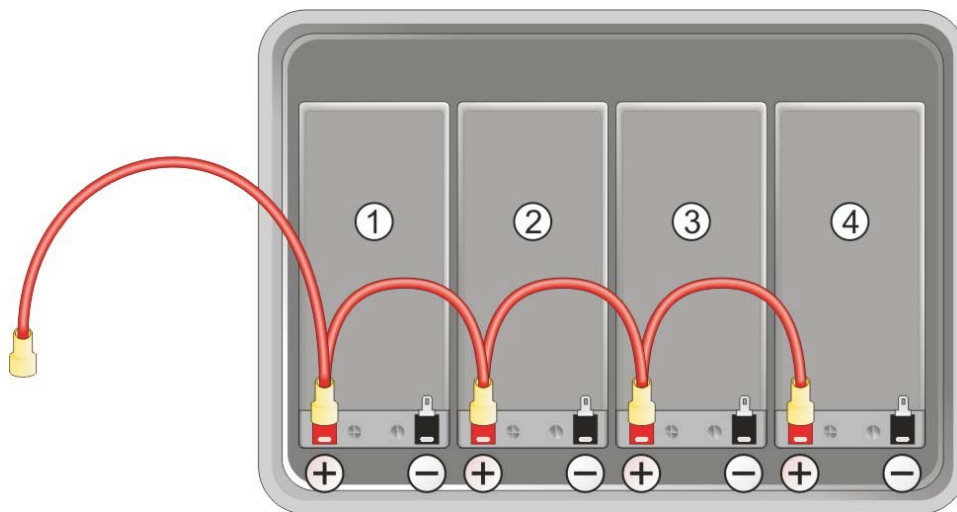

Figure 6-11:
1. Use four spade lug connectors to connect all four batteries in parallel with each other, as illustrated in Figure 6-11. This requires that you connect jumper wires between all the positive terminals, placing two wires in each spade lug connector except the first and last.